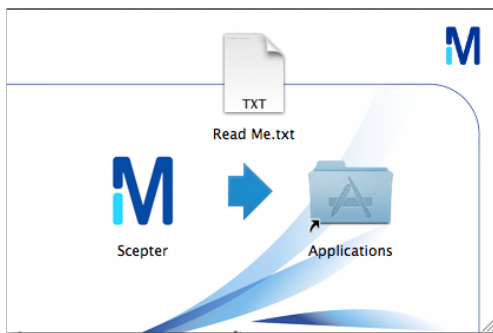

Figure 2. Scepter software installation on a Macintosh computer
1. Save the Scepter zip file to your computer. It automatically expands and mounts to your desktop after you download it, opening the installation window (Figure 2). If it does not expand, double click on the zip file to expand it.